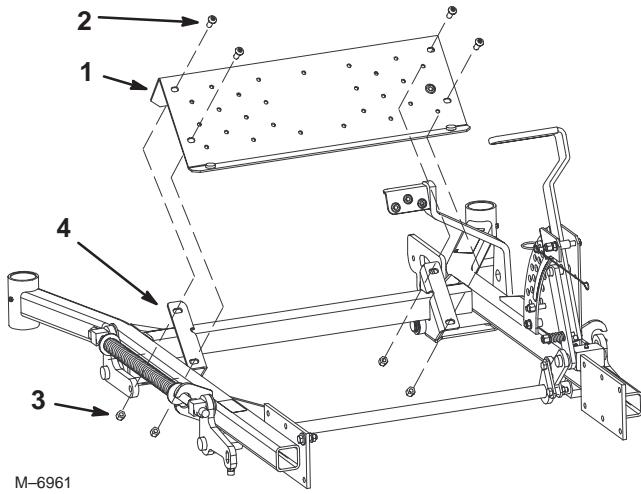

Figure 2
3. Raise the foot pan and then remove the footrest from the machine (Fig. 2).
5. Install the footrest onto the machine and lower the footpan (Fig. 2).